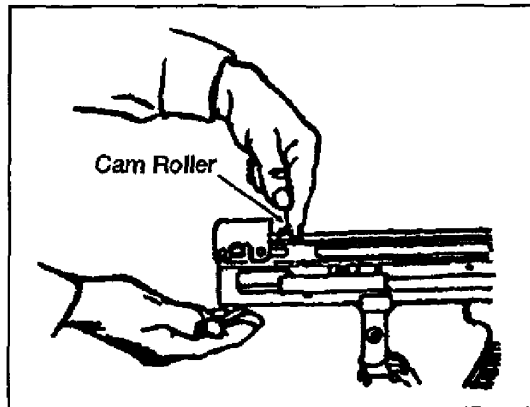

Figure 071-312-3025-4. Cam roller
- (1) Grasp the pistol grip with the left hand.
- (2) Pull the cocking handle to the rear with your right hand until the bolt separates from the barrel socket.
- (3) Return the cocking handle to the forward position.
- (4) Pull the cam roller until it stops. This pulls the rod and bolt to the rear.
- (5) Push the bolt to the rear with your finger on the face of the bolt (figure 071-312-3025-4).